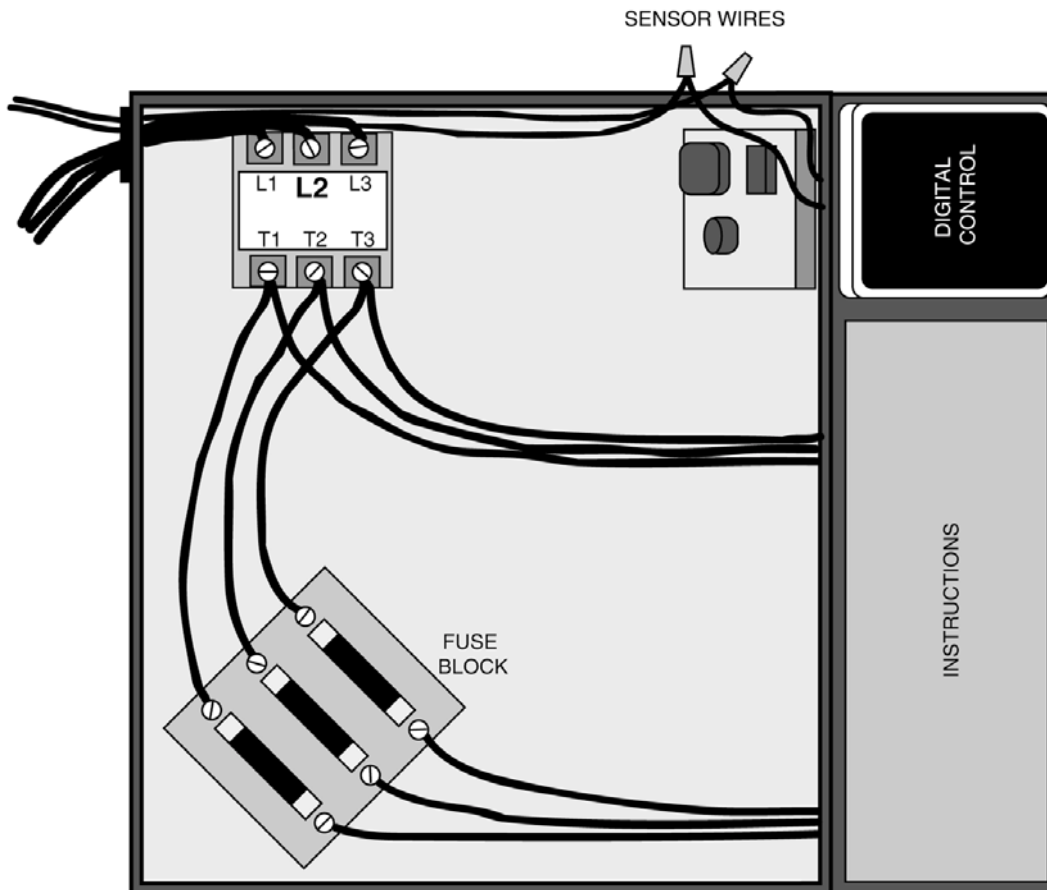

Figure 3
5. Bring the control sensor wire to the generator. With the top cover removed, see figure3, connect the control sensor wires, using wire nuts, to the two loose wires on the back of the control panel.